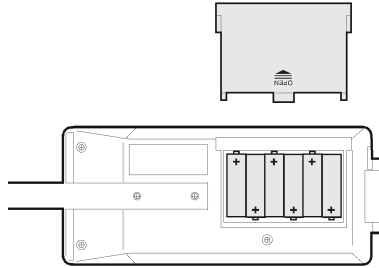

Fig6
- 1) Press the “OPEN” on the battery cover and pull it out in the direction of the arrow. Insert the 6AA batteries into the compartment as indicated by the polarity symbols marked inside the compartment. (See Fig.6)